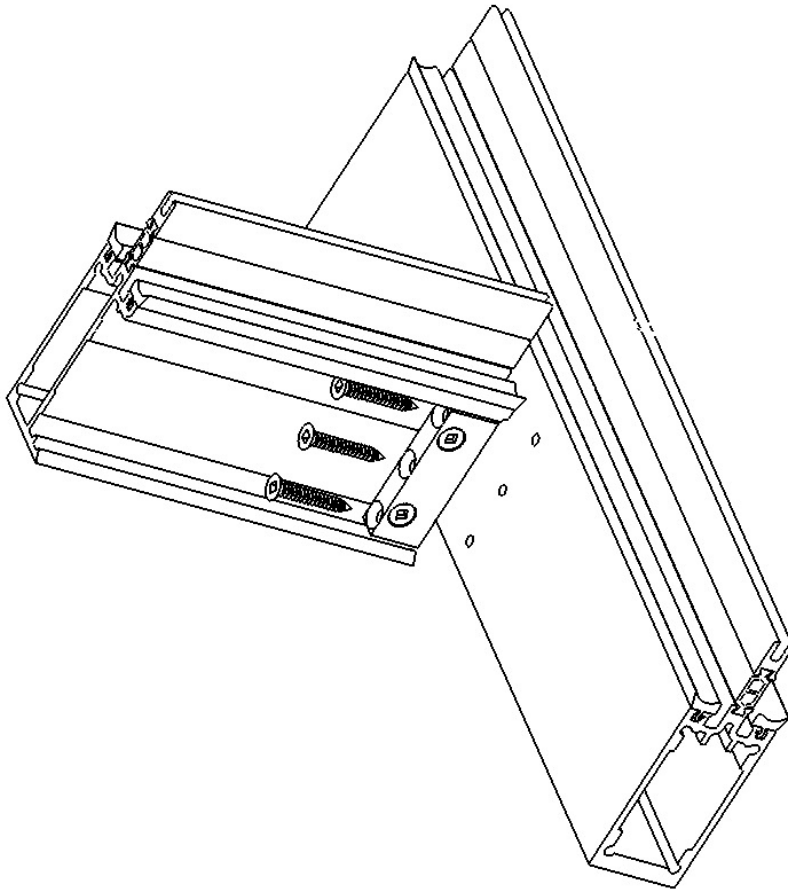

Figure 14
- Place each of the horizontal T-bars between the vertical T-bars as pictured in Figure 14. The open side of the horizontal T-bar with the pre attached brackets should be facing toward the sill (which will be facing down when the product is finally installed). Secure each end into location with (3) #10 x 1 1/4" screws through the pre-attached brackets into the pre-drilled holes on each of the vertical T-bars. (See Figure 14).